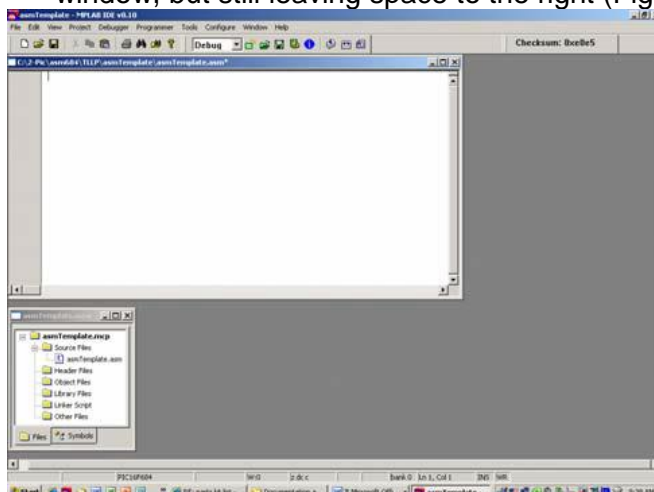

Fig 1.3: Editor window placement
- d. Double click on that file in the *Project* window, and your *Editor* window (which contains your source code) should pop up. Stretch the *Editor* window to fit above the *Project* window, but still leaving space to the right (Fig 1.3).